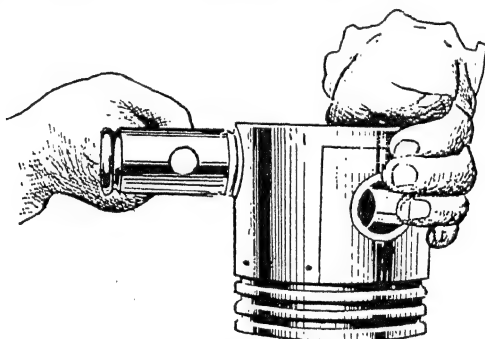

Fig. 33. Using a Rawhide Mallet to Round Up an Out-of-Round Piston
**Rounding-Up Out-of-Round Pistons.** Pistons, when machined, are supposed to be round. Owing to the fact that metal warps in cooling, just as wood does, the pistons may not remain perfectly cylindrical. Then again they may be damaged slightly when shipping or when handling. Pistons should be carefully checked with the micrometers before installing in the cylinder. If it is found that they are not perfectly round, being out of round a slight amount, say .002 to .005 inch, they may be rounded up as suggested in Fig. 33. The piston is inverted on the bench top, held with the left hand and struck with a rawhide mallet on the high spot. A